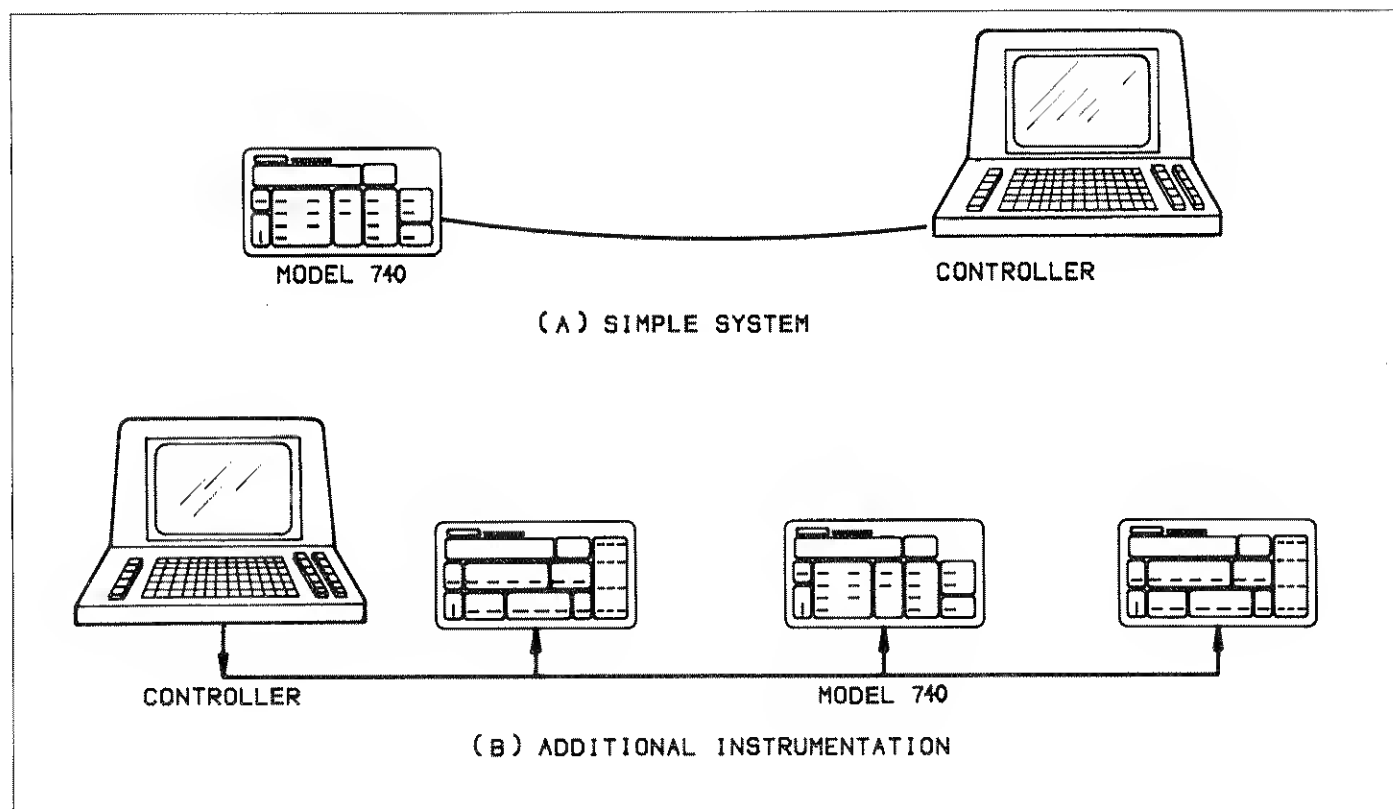

Figure 3-4. System Types
Figure 3-4 shows two possible system configurations. Figure 3-4(A) shows the simplest possible controlled system. The controller is used to send commands to the instrument, which sends data back to the controller.
The system in Figure 3-4(B) is somewhat more complex in that additional instruments are used. Depending on programming, all data may be routed through the controller, or it may be sent directly from one instrument to another.